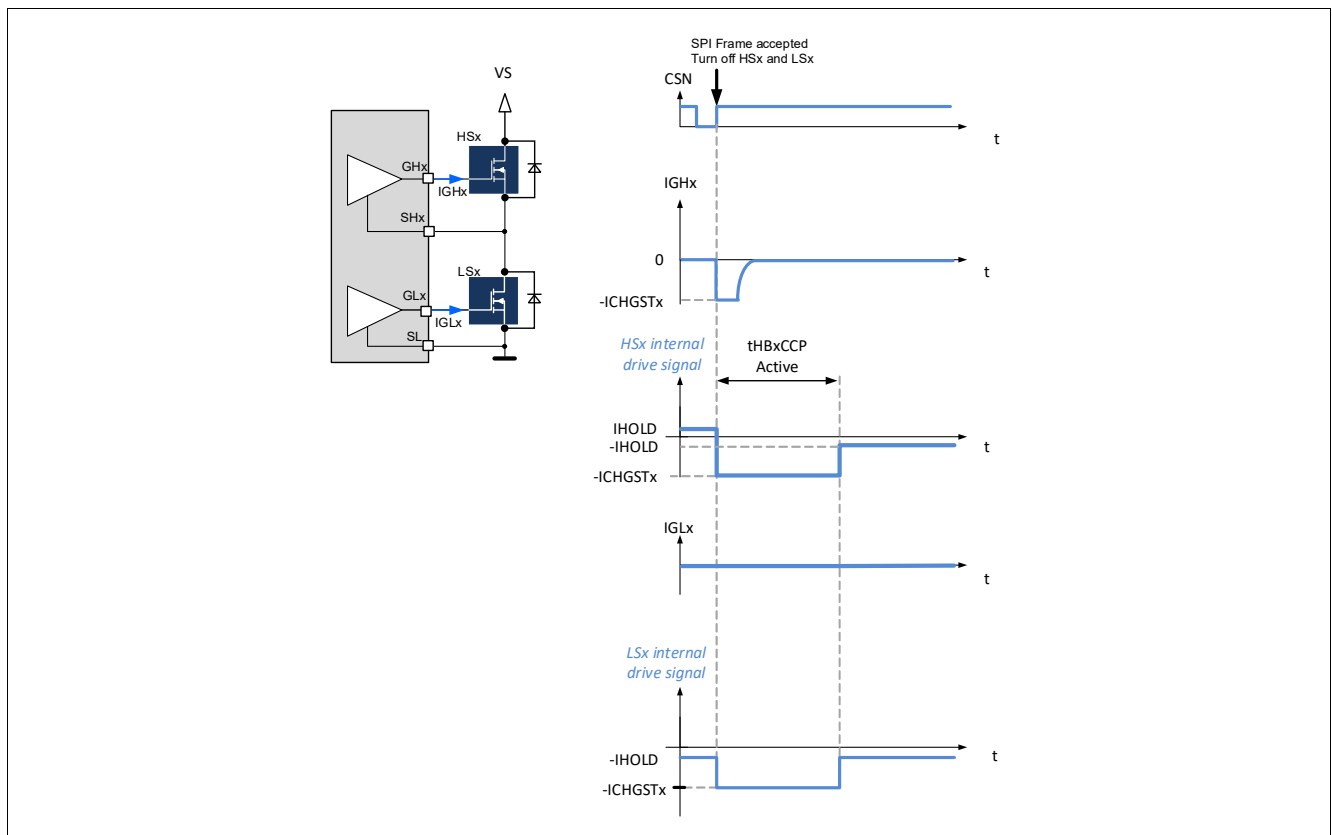

Figure 39 Turn-off of the high-side and low-side MOSFETs of a half-bridge
- The gate of HSx and LSx are discharged with the current -ICHGSTx for the duration $t_{HBxCCP\ ACTIVE}$ (Figure 39).